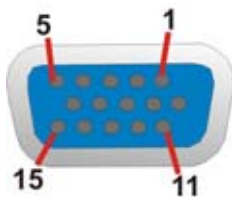

Figure 4-28: VGA Connector
- CN Pinouts:** See **Figure 4-28** and **Table 4-25**